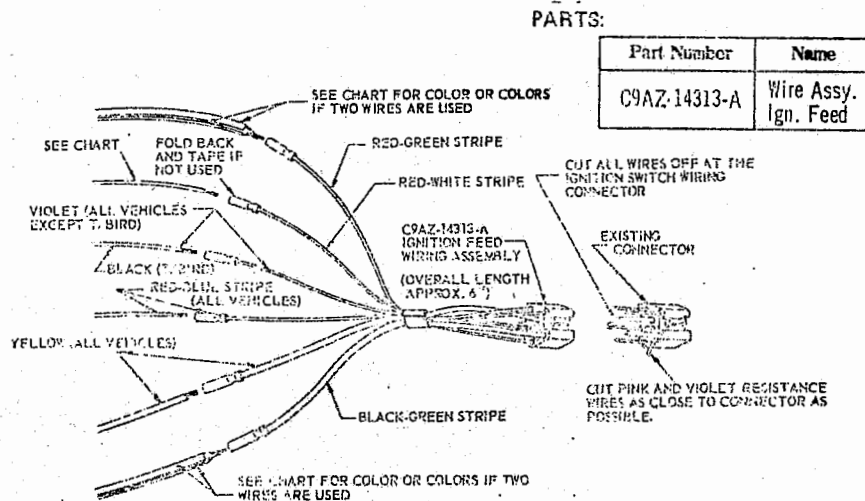

Figure 2
C. Cut the wires at the ignition switch and discard the connector. Refer to Figure 2.
E. Refer to Figures 2 and 3 to determine proper color match for the appropriate vehicle line and securely crimp the wire into the proper butt connector of the new ignition feed wire assembly.